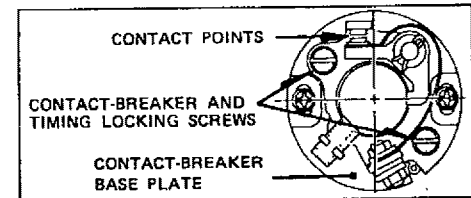

Figure 13
- a. The magneto ignition system consists of the following component parts: Contact Points, Condenser, and Ignition Coil. (See Figure 13).
- (1) Spark plug as often as necessary. Be sure spark plug gap setting is .025" (0.6mm).
- (2) Gasoline fuel supply and fuel shut-off valve should be open.
- (3) Carburetor being starved of fuel.